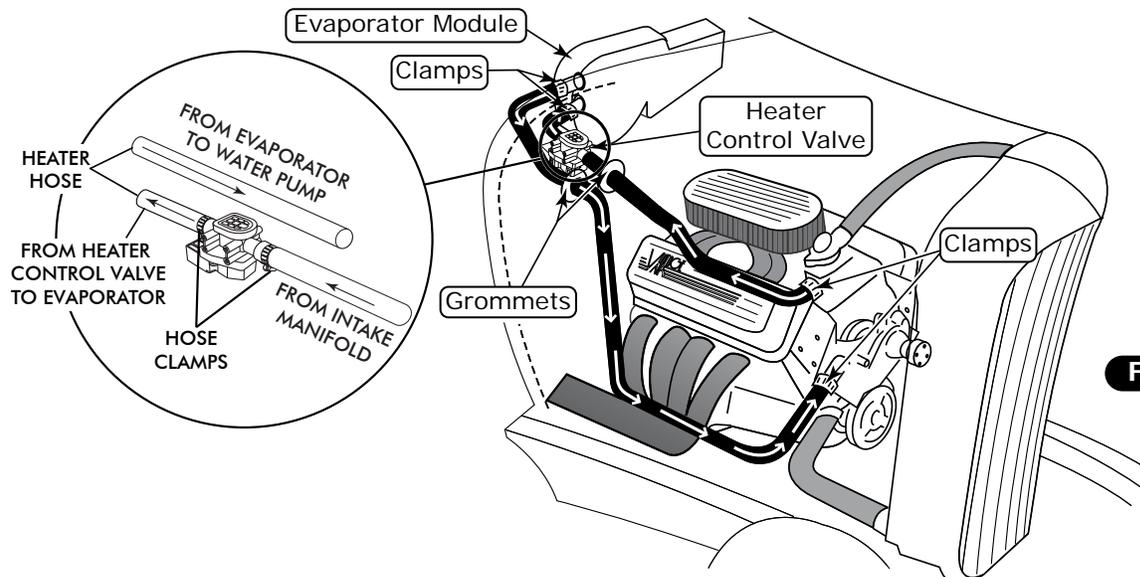

Figure 1
3. Brackets are furnished to mount the evaporator case. Attach to the firewall as shown in Figure 1, below.
4. The cowl vent handle will work if moved to the side. You can also convert to electric or cable operation. If you close off the cowl vent, the module will fit higher in the car. **NOTE: To mount the module higher, simply determine the new location, mark and re-drill the bracket to fit as described in Step 6 (See Figure 1, below). Be sure to allow sufficient clearance for routing the duct hoses.**
1. After the evaporator is in place, run 5/8" heater hose from the heater tube nearest the blower on the evaporator through the firewall or behind the kick panel through the floor to the intake manifold heater connection. Install the heater control valve in this line (pressure) (See Figure 1, below). **NOTE: Be sure to follow flow arrow on heater control valve.**
7. Install the duct hoses as shown in Figure 1, Page 15. Stretch the duct hose tightly to the dash vents. Trim to ensure that the duct hose is tight, with as few kinks or sharp bends in the hose as possible. This will ensure maximum airflow.